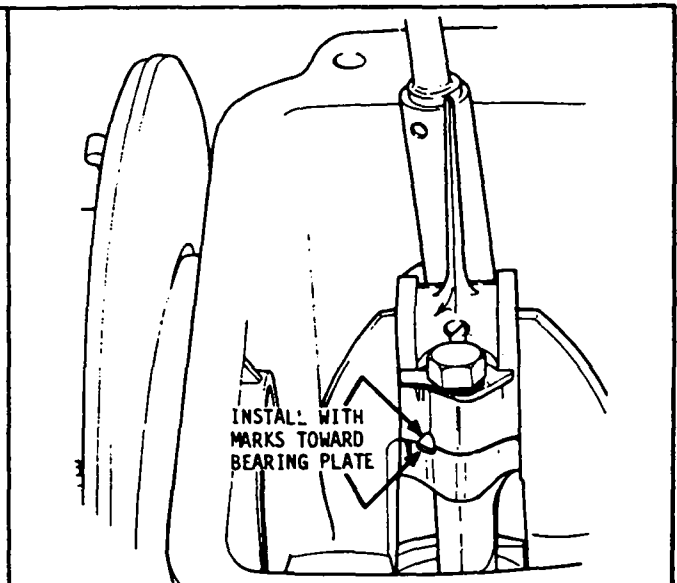

Figure 42 Installing Connecting Rod Cap Screw
- It is important that marks on connecting rod and cap line up and face flywheel end of engine. (See Figure 42)